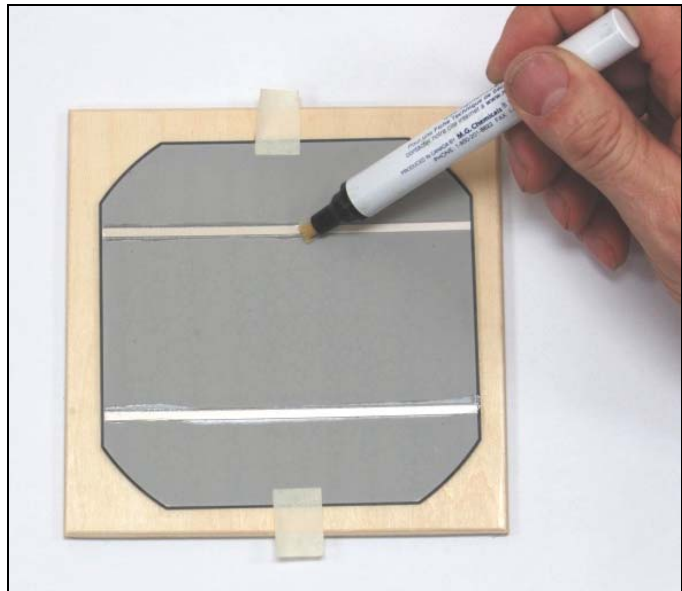

Figure 16
- ✓ Begin by priming the flux pen. Remove the cap and press the tip onto a corner of the "workbench" to start the flow of flux. **Do not** try to prime the flux pen by pushing it on the cell itself. Once the flux starts to flow, gently brush it along the cell's conductive strips as shown in Figure 16.